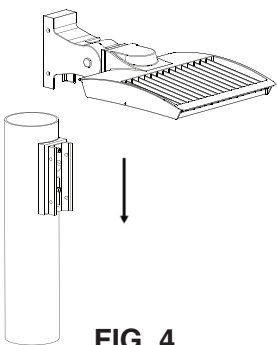

FIG. 4
3. Tighten the four (4) M8 bolts on the arm and secure it to the adapter. Connect the power leads properly according to the wiring diagrams above. Make wiring connections inside the arm, and tighten the bottom cover with the four (4) M4 screws (see **FIG. 4**). The wiring connections can also be made inside of the pole.
2. Insert the fixture onto the adapter (see **FIG. 4**).